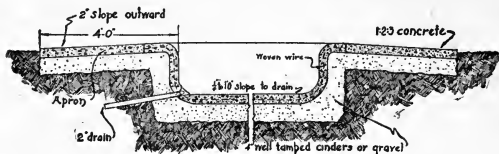

Figure 99.—Concrete Hog Wallow, Showing Drain Pipe
*Concrete Hog Wallow.*—Figure 99 shows a hog wallow which should be about twelve or fourteen inches deep. It may be any size across and almost any shape, but it is better to have several small wallows